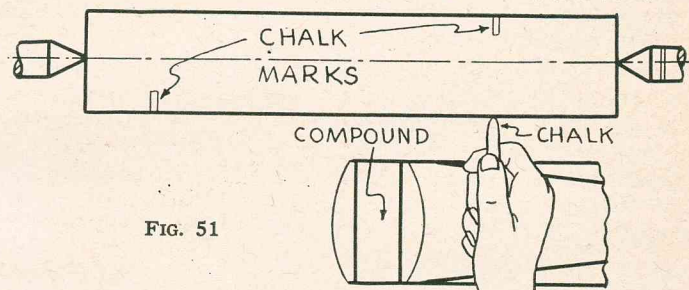

FIG. 51
the headstock slowly against a tip of the tool or a rigidly held chalk so that it just touches the high spots as illustrated in Fig. 51. If the center proves inaccurate (say .002 or more off) the position of the center should be corrected by re-punching at an angle.
3. Revolve the spindle slowly with left hand while holding a piece of chalk so that it just touches the high point (the nearest surface) of the work. (Fig. 51, page 53)